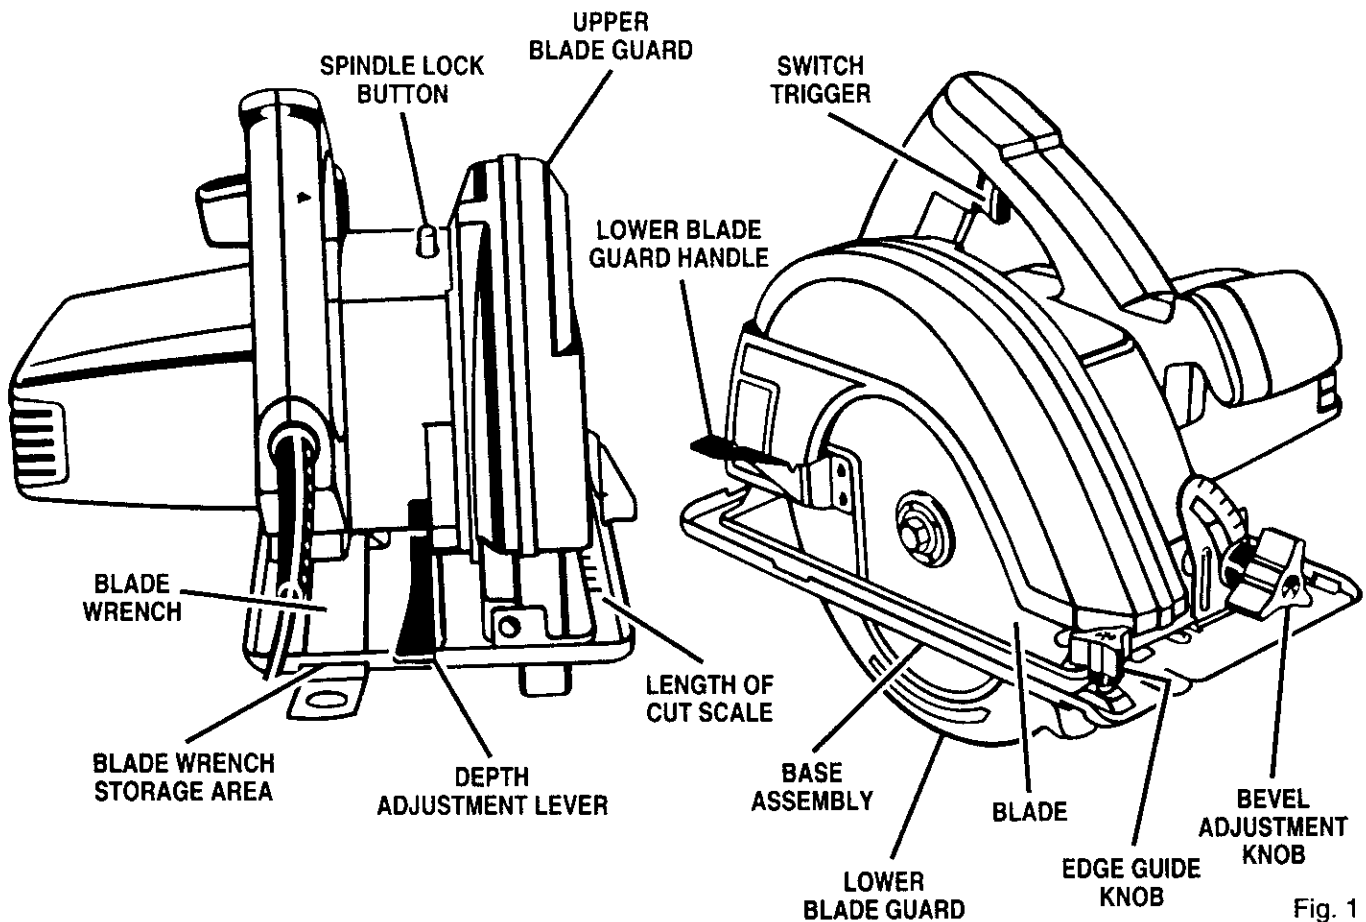

Fig. 1
See Figure 1.
- Remove blade wrench from storage area. *See Figure 1.*
- Return blade wrench to storage area. **Note:** Always place angled portion of blade wrench up as shown in figure 1.